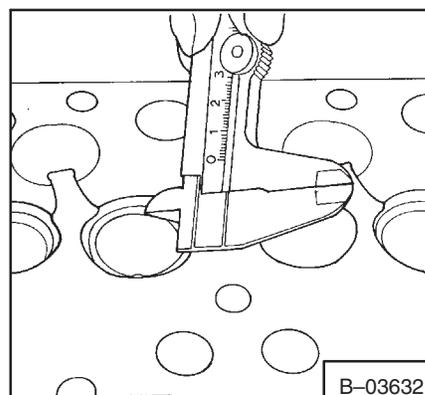

Fig. 7C-33 Checking The Valve Seat
9. Use the following steps to grind the valve seats (Fig. 7C-34):